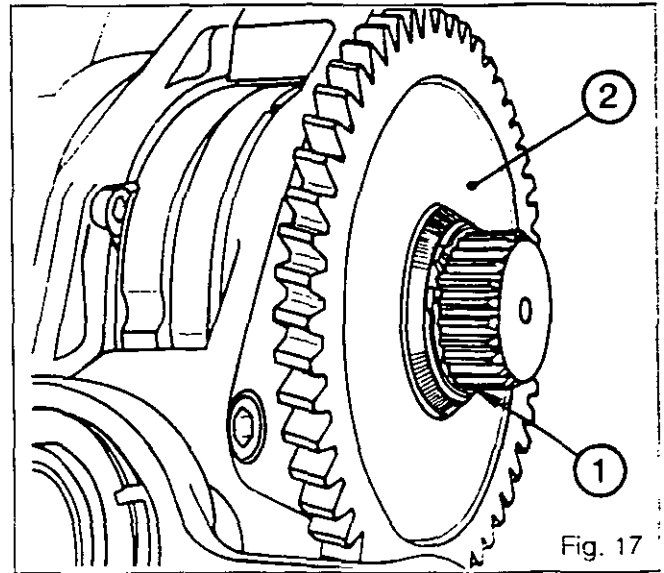

Fig. 17
57. Remove the circlip (1) and detach the gear (2) (if fitted) (Fig. 17).
60. Remove the circlip (1) and detach the gear (2) (if fitted) (Fig. 17).